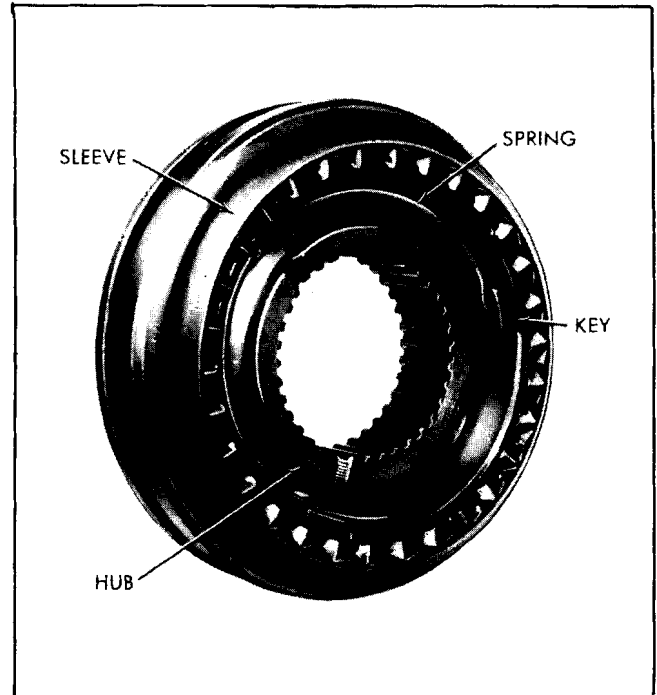

Fig. 7C-18 Typical Synchronizer Assembly
- b. Push hub from sliding sleeve and remove keys and springs from the hub (Fig. 7C-18).